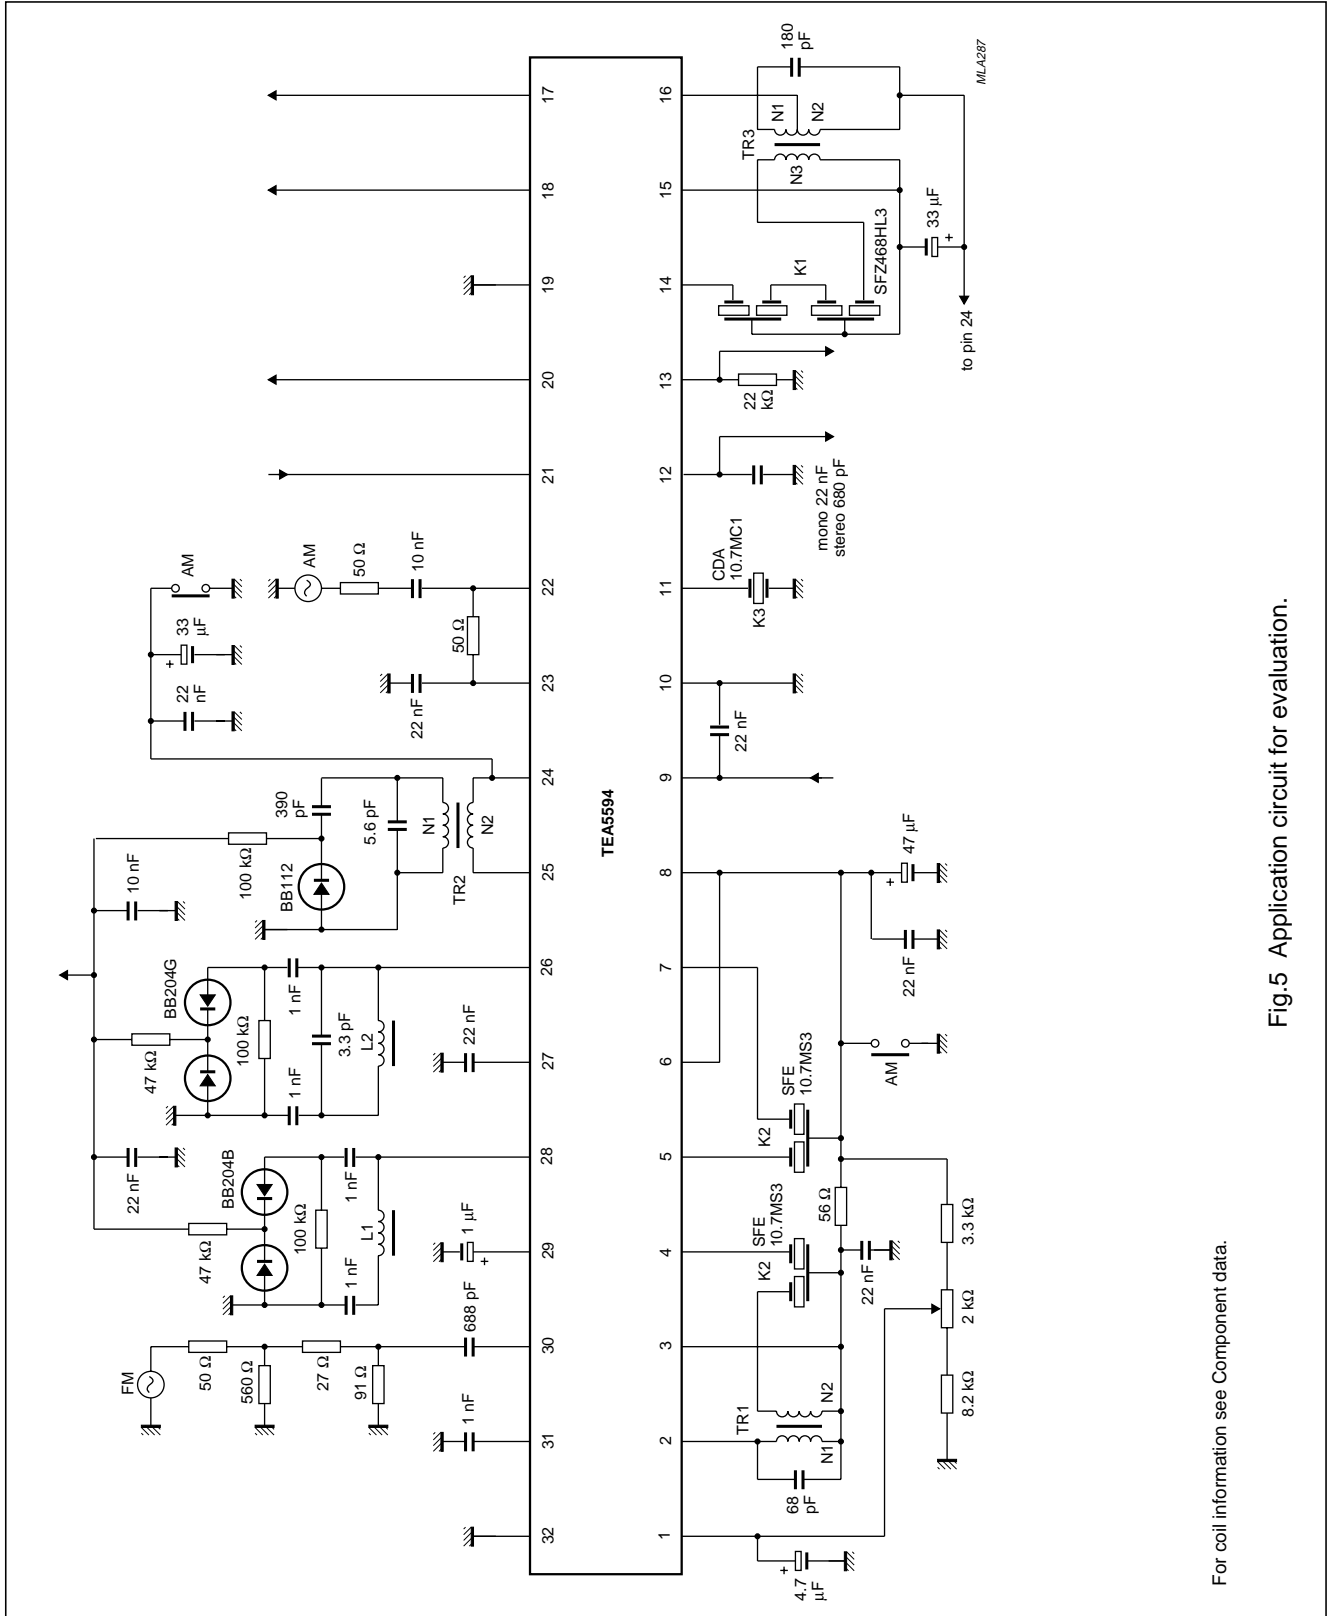

Fig.5 Application circuit for evaluation.
- Front-end connected to IF plus detector part (see Fig.5). Input frequency = 1 MHz; m = 80% modulated with f_{mod} = 1 kHz.